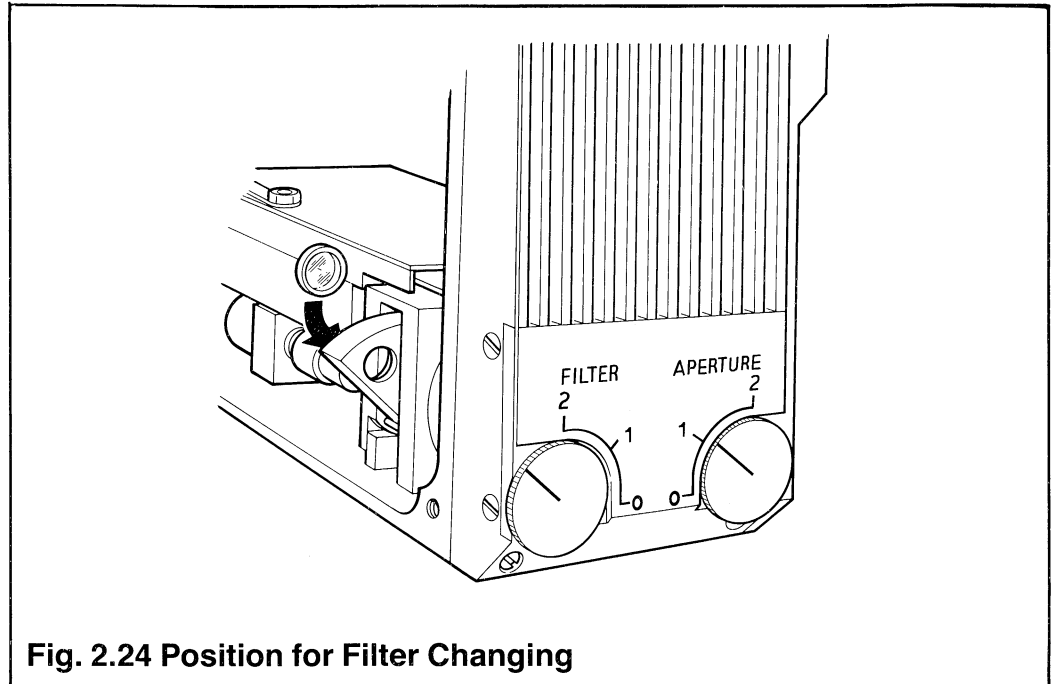

Fig. 2.24 Position for Filter Changing
To remove or install a filter. Remove the left hand side cover (as viewed from the back) of the scanner. Remove the pcb to expose the filter area (Fig. 2.24) then proceed as follows:
- (a) Rotate the filter turret until the second filter (position 2) is clear of the turret. Use the filter release tool to gently push the old filter from the turret. (See Fig 2.24)